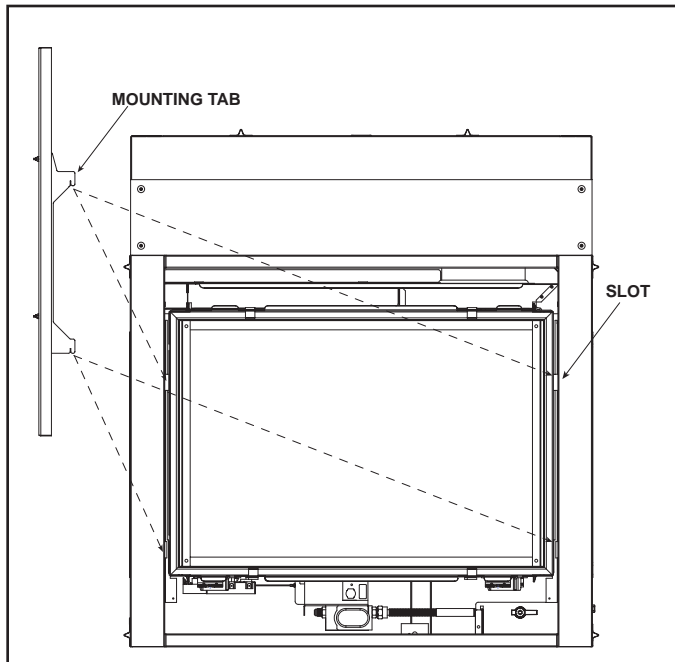

Figure 3.
6. Align the template brackets with the slots on the unit. See Figure 3.